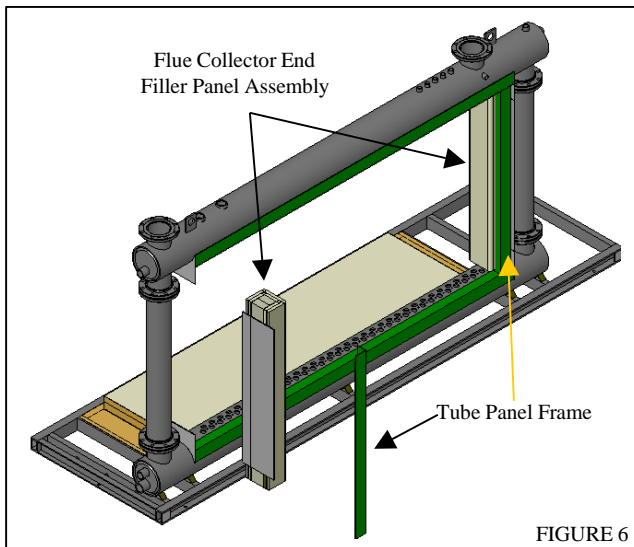

FIGURE 6
- 3.1 Install flue collector end filler panel assemblies. See figure 6. You will notice, once again, the color-code system on these pieces. This assures you that once they are installed; they are installed the exact same way they were at the factory. Simply align the colors and factory tack welds. Next, place the tube panel frame in position and tack weld.